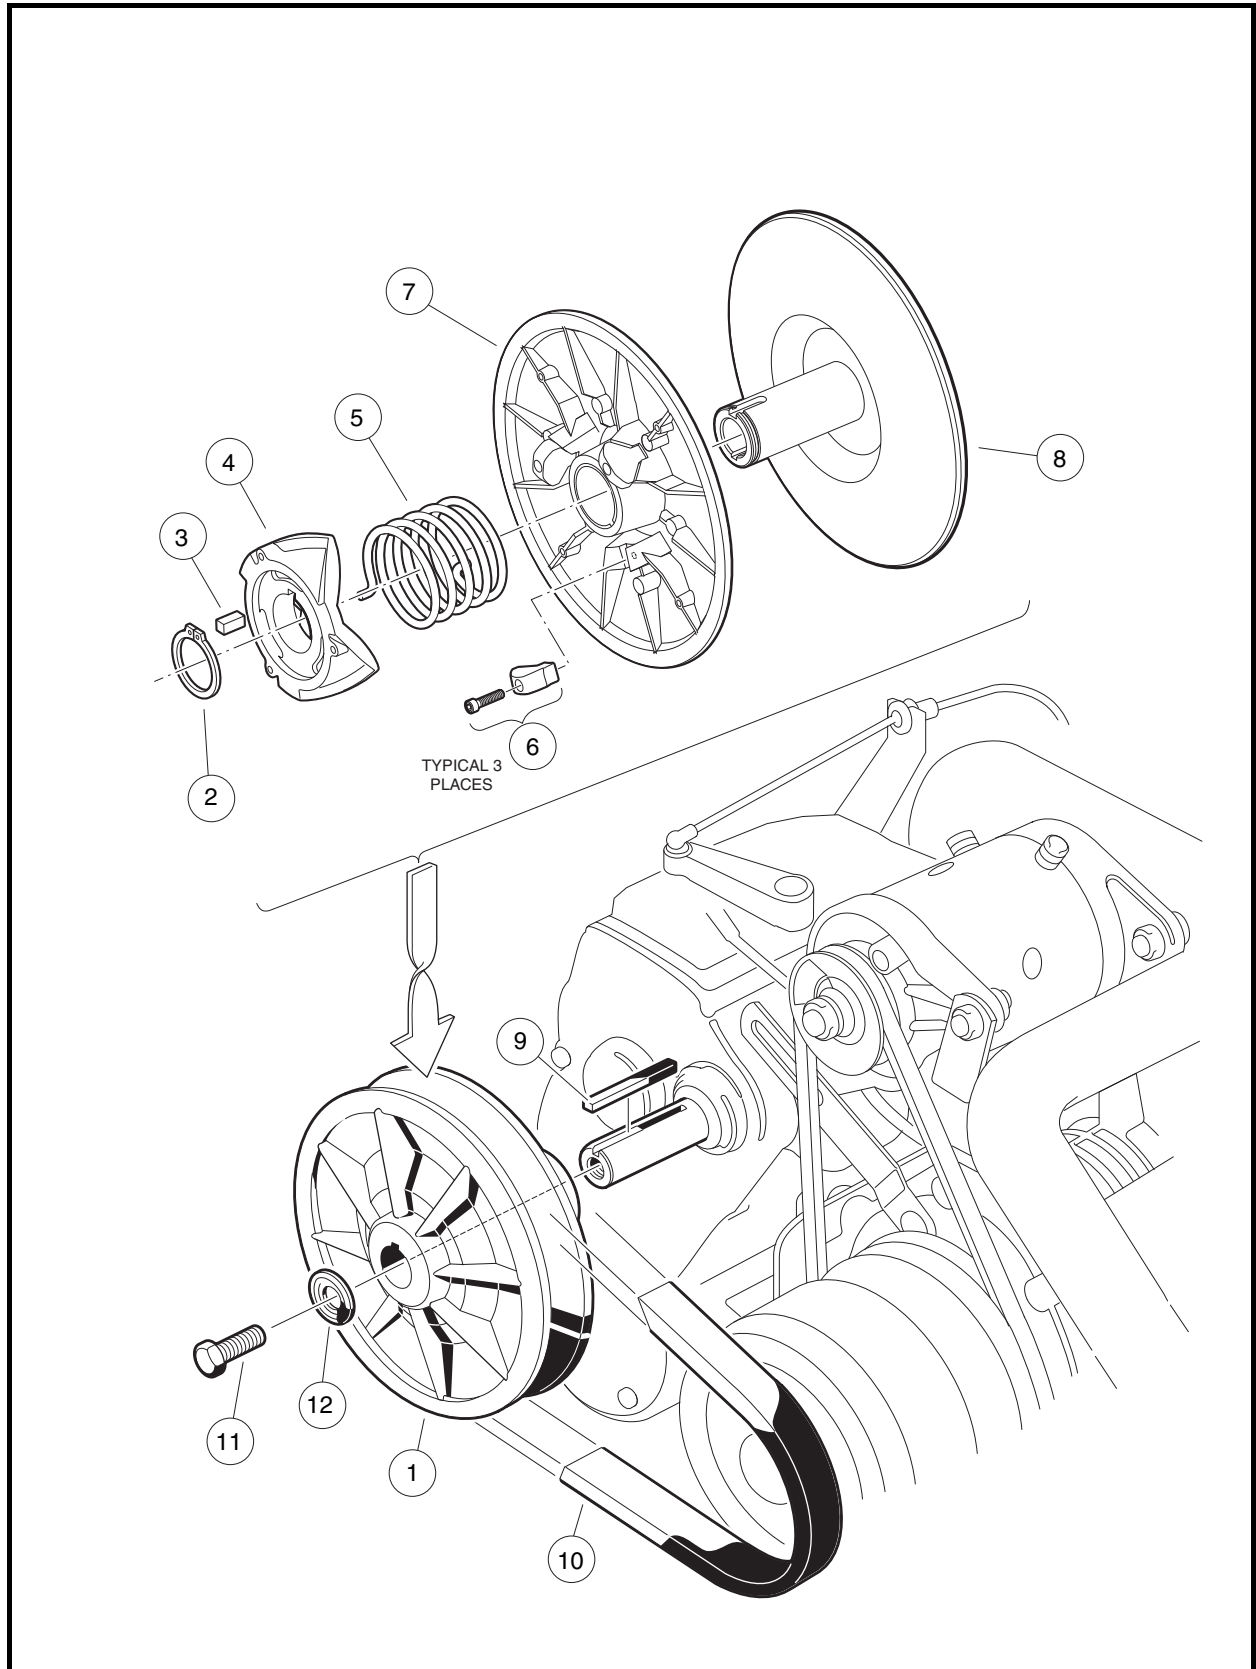
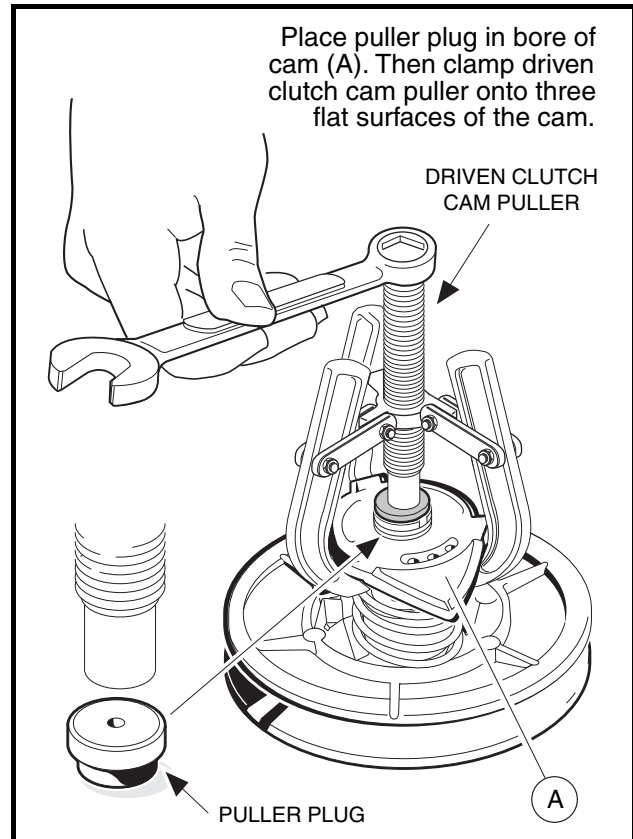

Figure 17-16 Driven Clutch Assembly
Figure 17-18 Driven Clutch Disassembly
4. Remove the bolt (11) and mounting washer (12) from the clutch shaft (**Figure 17-16, Page 17-14**).
6. Leave the key (9) in the keyway (**Figure 17-16, Page 17-14**).
2. Insert a puller plug (CC P/N 1014507) (**Figure 17-18, Page 17-15**) into the shaft bore and use a driven clutch cam puller (CC P/N 1014508) to remove the cam (4) from the fixed face shaft (8). Retain the key (3) (**Figure 17-16, Page 17-14**).
3. Remove the spring (5) (**Figure 17-16, Page 17-14**).
4. Slide the moveable face (7) off the fixed face shaft (8) (**Figure 17-16, Page 17-14**).
1. Inspect the cam (4) for excessive wear. Replace it if necessary (**Figure 17-16, Page 17-14**).
2. Inspect the drive buttons (6) for excessive wear. Replace if necessary. To remove the drive buttons, remove the socket-head cap screws and then the buttons.
1. Place the three drive buttons (6) in position. Apply one drop of Loctite® 222 to each of the socket head cap screws and then install and tighten them to 8 in-lb (0.9 N·m) (**Figure 17-16, Page 17-14**).
2. Slide the moveable face assembly (7) onto the fixed face shaft (8).
3. Place the end of the spring (5) into hole in the moveable face assembly.
4. Install the key (3) into the keyway of the fixed face assembly (8) shaft.
5. Holding the cam (4) in position for assembly on the shaft, install the other end of the spring (5) into the center spring hole of the cam. Rotate the cam until the keyway is aligned with the key (3) on the fixed face assembly, and then start the cam onto the shaft approximately 1/4 to 3/8-inch (6.3 to 9.5-mm).
- 5.1.3. Install the retaining ring (2) (Figure 17-16, Page 17-14). See following NOTE.
1. To install the driven clutch, reverse the removal procedure. Make sure that the washer (12) is mounted with the flat portion of the washer against the driven clutch as shown (**Figure 17-16, Page 17-14**). Secure with a *new* bolt (11). **See following NOTE.**
**NOTE:** *The bolt (11) must be replaced with a new bolt (CC P/N 102242101) containing a locking patch that will prevent the bolt from loosening.*
2. Tighten the bolt (11) to 18 ft-lb (24 N·m).